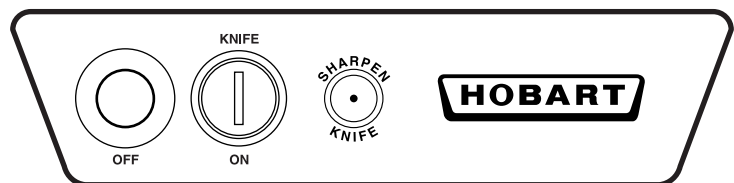

Fig. 9
- Turn the slicer on by pressing the KNIFE ON button (Fig. 9).